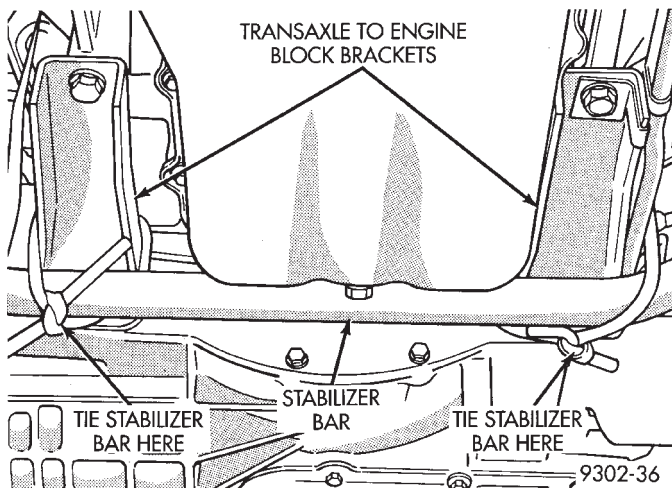

Fig. 20 Stabilizer Bar Stored For Cradle Installation
(2) Tie stabilizer bar up against the 2 transaxle to engine block brackets (Fig. 20). This will keep stabilizer bar out of the way when installing cradle assembly.